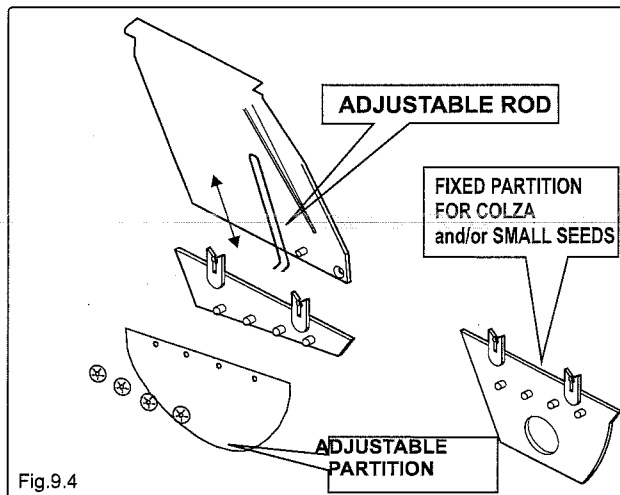

Fig.9.4
3. An adjustable partition (fixed in case of colza and any small-size seeds) which is used to adjust the seed level in special situations such as on sloping grounds or with small-size seeds. This partition adjusts the width of the seed mouth in order to prevent the seeds from coming out of the distributor in case of overflow. The partition is adjusted by means of a spring on the lid (Fig. 9.4);